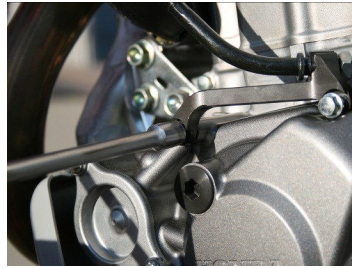

Figure 11
- Install cable bracket on left side of case using (2) bolts provided (which replace stick ignition cover bolts) (see figure 11)